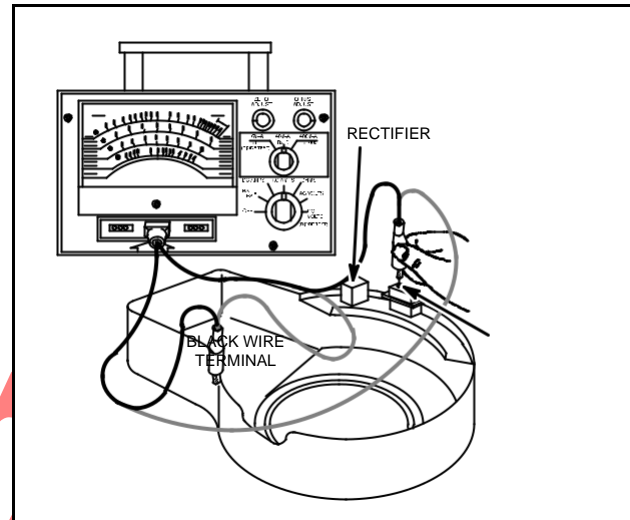

Fig. 755 – TESTING RECTIFIER
4. Attach RED test lead clip to a clean, unpainted area on blower housing, Fig. 755.